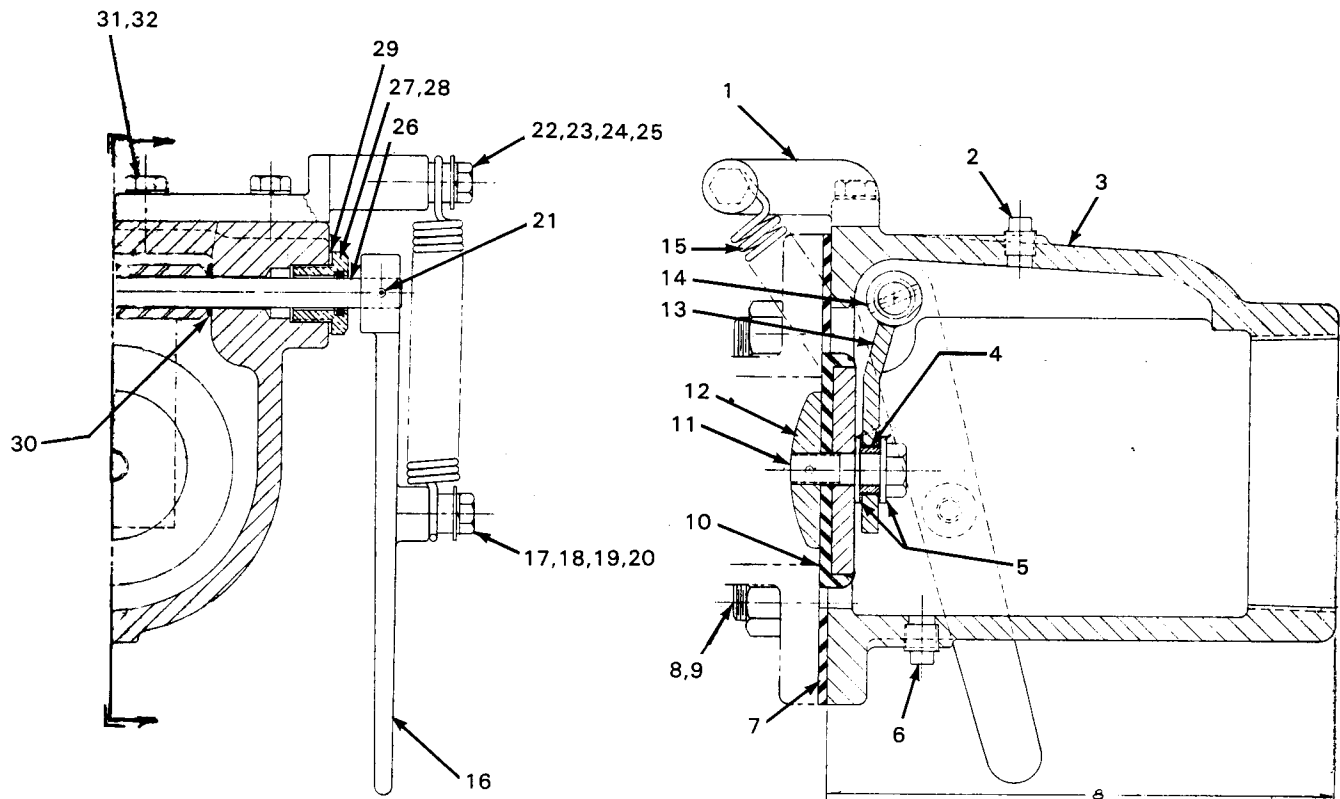

Figure 4. Check Valve Assembly GRP14-12-A
To remove the check valve assembly (30, figure 1) from the pump sub-assembly, see figure 4, and close the check valve to release tension on the extension spring (15). Remove the drain plug (6) to drain the check valve. Remove the hex head capscrew (22), spacer (23), flat washer (24), and lockwasher (25) securing the extension spring bracket (1) to the pump sub-assembly. Remove the hex nuts (8) securing the check valve assembly to the discharge flange of the pump sub-assembly, and remove the check valve.
See figure 4, and install the hex nuts securing the check valve assembly to the discharge flange of the pump sub-assembly. Install the lockwasher, flat washer, spacer, and hex head capscrew securing the extension spring bracket to the pump sub-assembly. Clean and install the check valve drain plug.